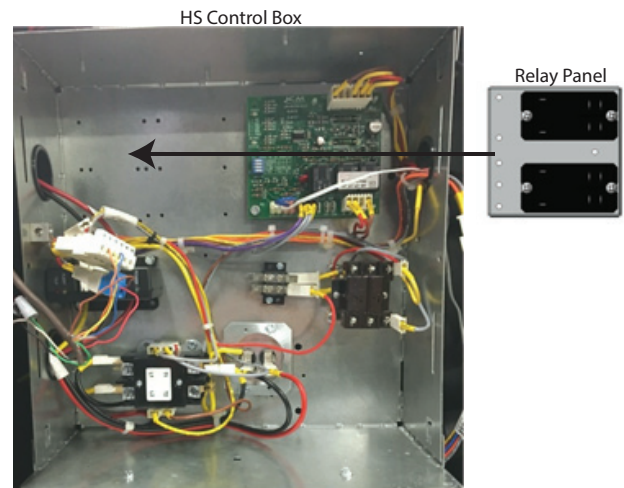

Fig. 8 — Location of Pre-wired Relay Panel for Model HS
- a. Attach pre-wired relay panel to the control box with #6 sheet metal screws to the locations shown in Fig. 8 and 9.